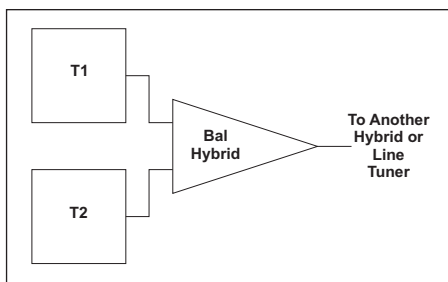

Figure 7-1.
- A Balanced Hybrid should always be used if combining 2 Transmitters. Never use a Skewed hybrid for this application. (See Fig. 7-1)